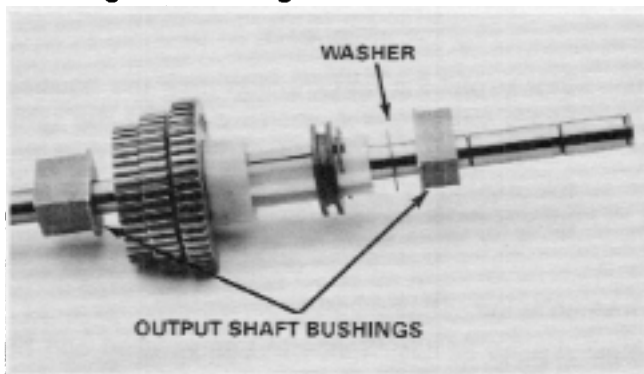

Figure 68
7. Complete the output shaft assembly by sliding a spacer washer and the other output bushing, flanged side first, onto the output shaft. Don't forget to coat these components with a light coat of grease. See Figure 68.